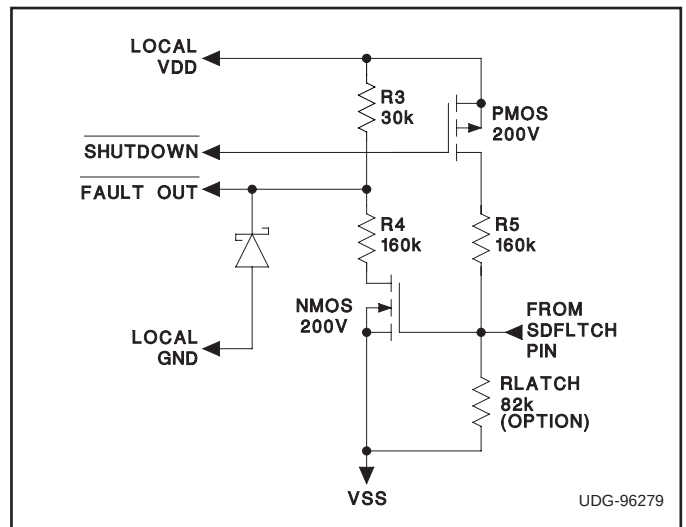

Figure 6. Possible Level Shift Circuitry to Interface to the UCC3921, showing component values selected for a typical telecom application.
Some type of circuit is needed to interface with the UCC3921 via SDFLTCH, such as opto-couplers or level shift circuitry. Figure 6 depicts one implementation of level shift circuitry that could be used, showing component values selected for a typical –48V telecommunications application. There are three communication conditions which could occur; two of which are Hot Swap Power Manager (HSPM) state output indications, and the third being an External Shutdown.
- 1) When open, and under a non-fault condition, SDFLTCH is pulled to a low state. In Figure 6, the N-channel level shift transistor is off, and the FAULT OUT signal is pulled to LOCAL VDD through R3. This indicates that the HSPM is not faulted.
- 2) When a fault is detected by the fault timer or under-voltage lockout, this pin will drive to a high state, indicating that the external power FET is off. In Figure 6, the N-channel level shift transistor will conduct, and the FAULT OUT signal will be pulled to a Schottky Diode voltage drop below LOCAL GND. This indicates that the HSPM is faulted. The Schottky Diode is necessary to ensure that the FAULT OUT signal does not traverse too far below LOCAL GND, making fault detection difficult.